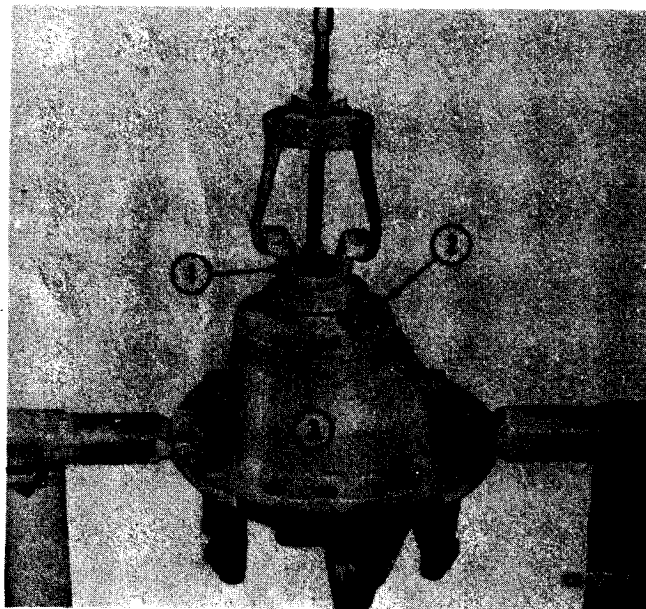

Figure 6-16
Remove cotter pin (3, Fig. 6-16) from pinion shaft and nut. Hold the input yoke with a suitable tool and remove pinion shaft nut (2) and washer.